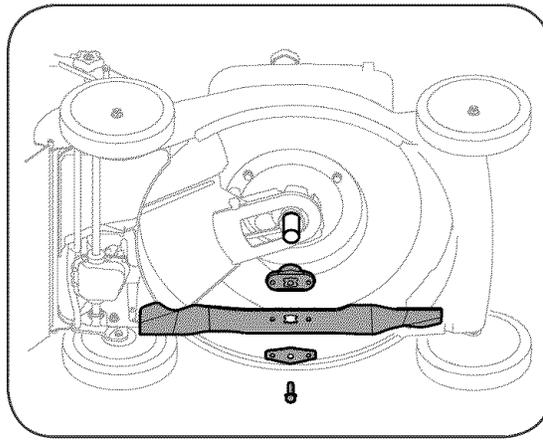

Figure 5-3: Remove the bolt, support, blade, and adapter to access the blade and underside components.
2. Remove bolt, blade bell support, blade, and adapter from the engine crankshaft, Figure 5-3.
4. Remove blade, blade adapter, and related hardware, Figure 5-3.